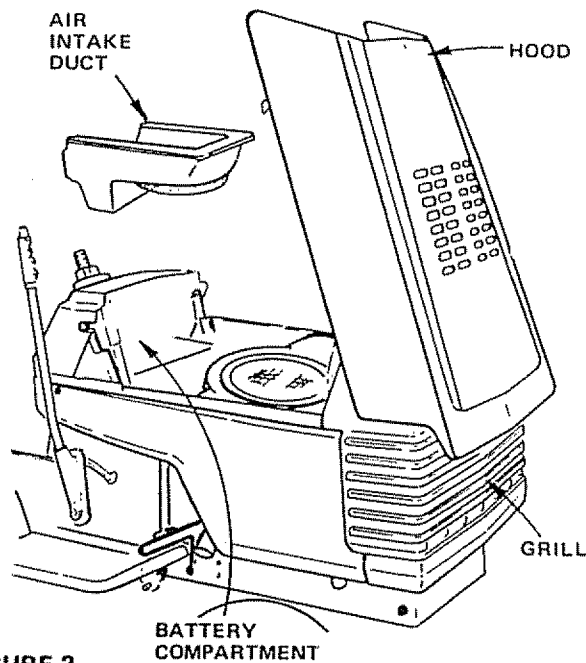

FIGURE 2
- a. Lift hood from rear sides (Fig. 2).
6. Replace Air Intake Duct (Fig. 2). Make sure bottom lip of Duct sits between battery and lip of Battery Tray.